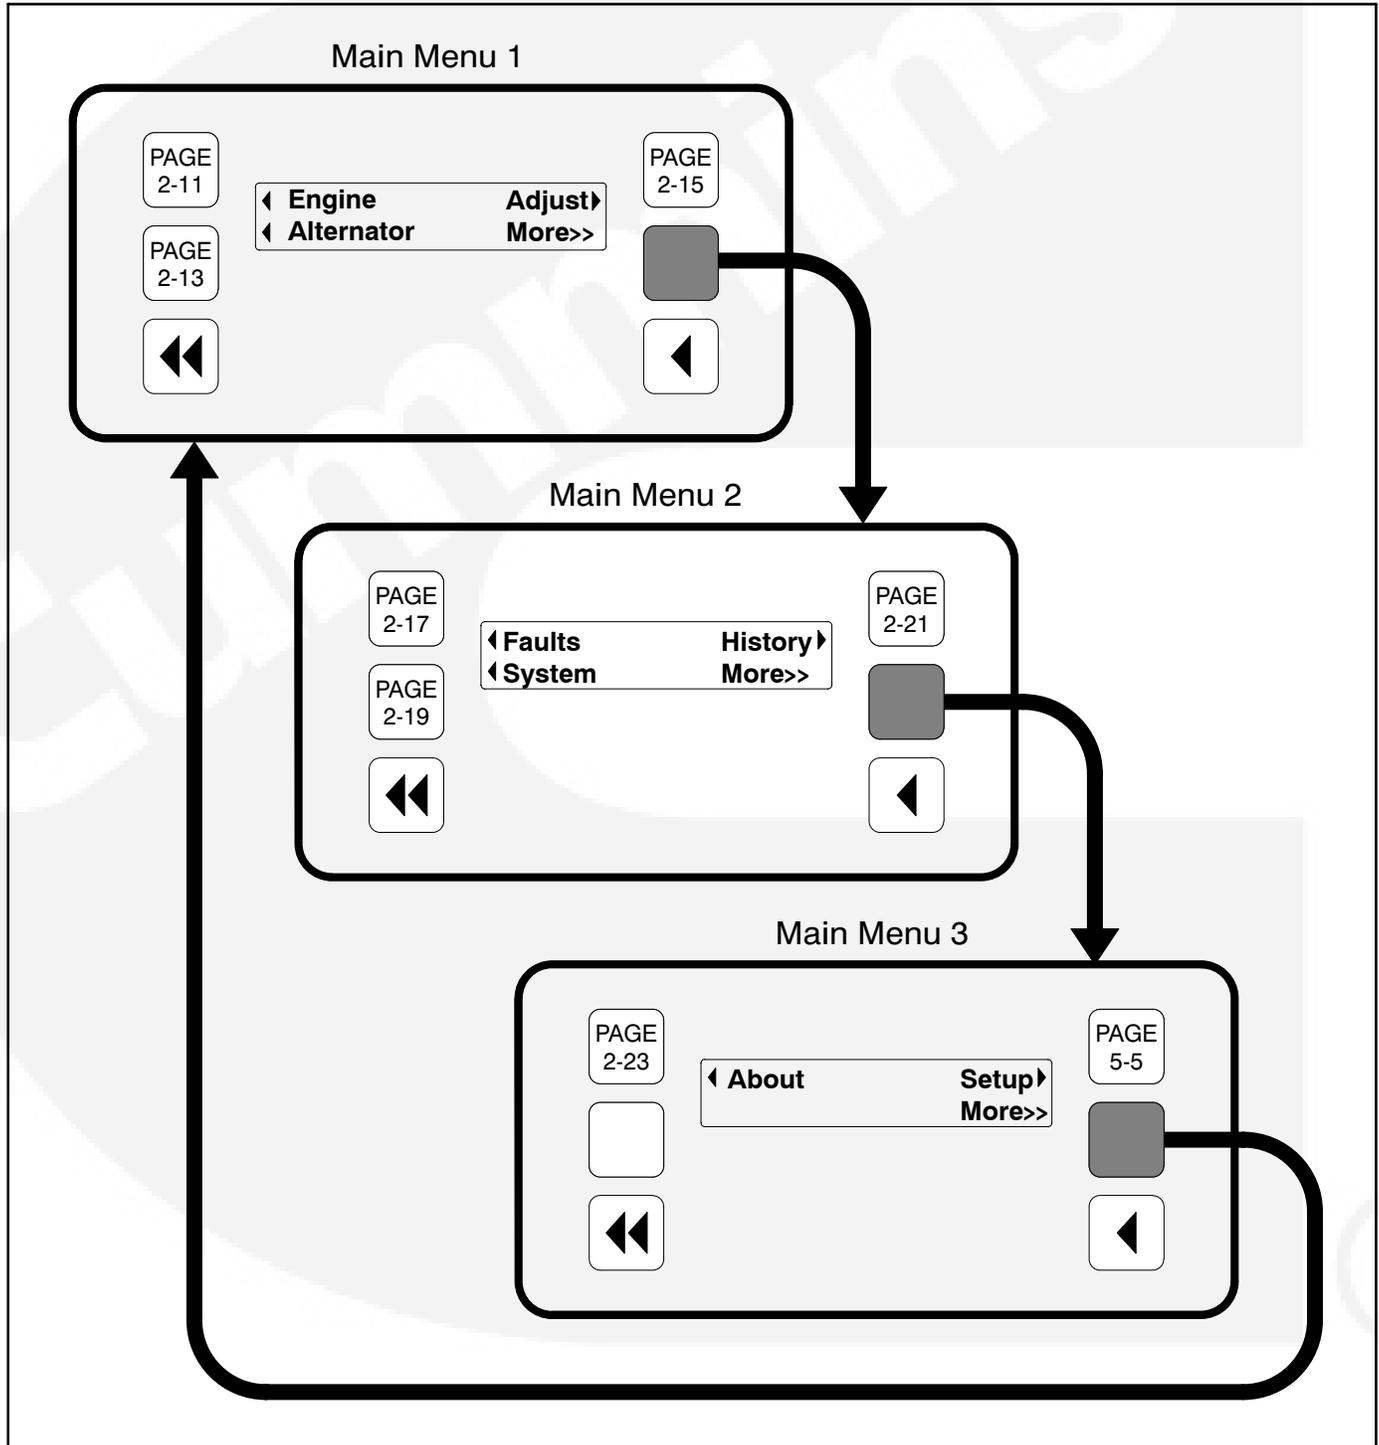
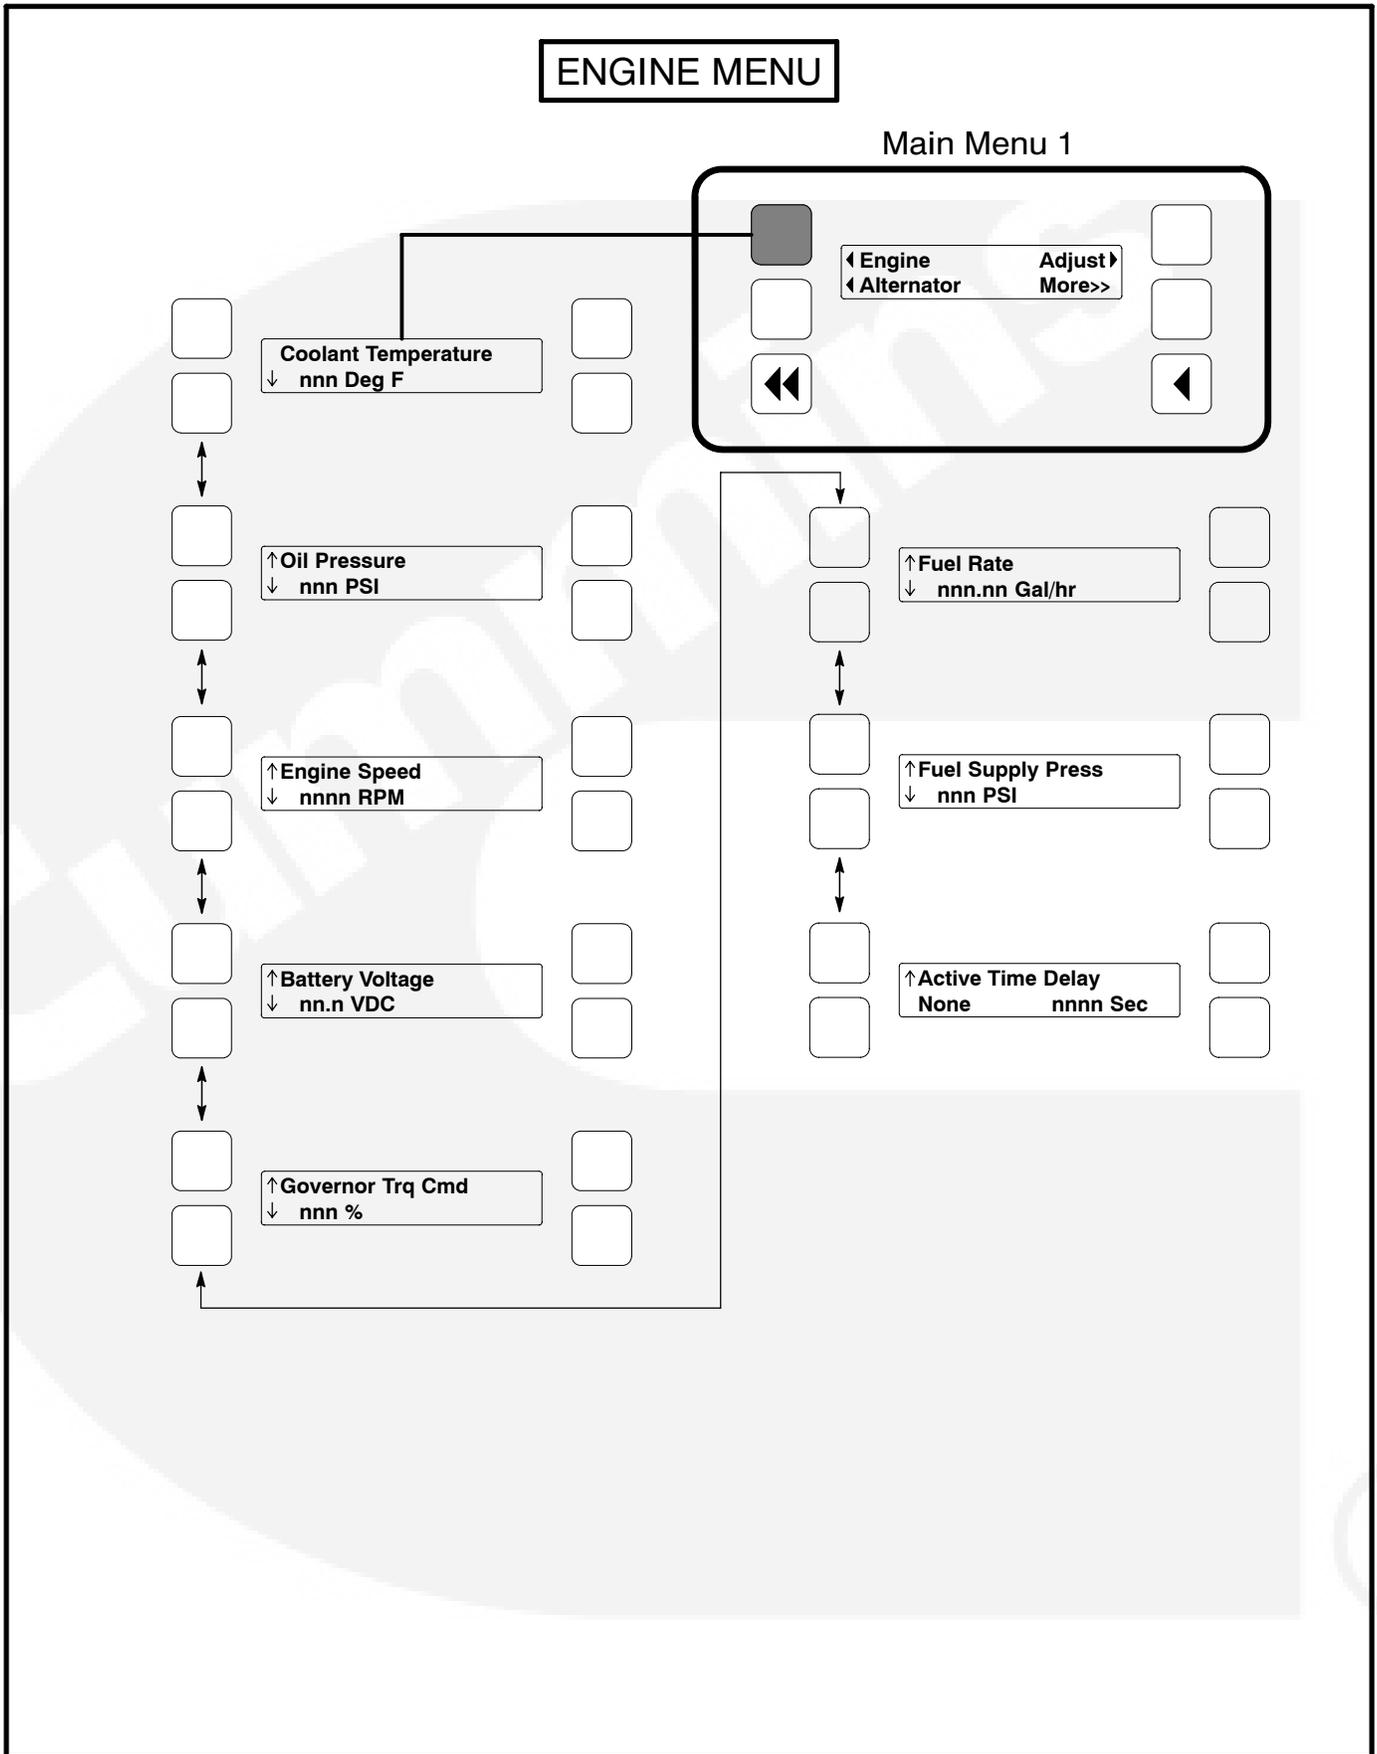

FIGURE 2-3. MAIN MENUS
FIGURE 2-5. ENGINE MENU
- In the digital display for main menus (Figure 2-3), the ◀ and ▶ symbols indicate that pressing the adjacent button causes the operating program to go to the selected submenu (e.g., Engine Menu in Figure 2-5).
the operating program to go to the next main menu, as shown in Figure 2-3.
Home Button: Pressing this button causes the operating system to show Main Menu 1 (Figure 2-3) in the digital display.
Figure 2-3 shows the three major main menus available to the user. Figure 2-3 also includes references to pages in this section where you can find additional information on submenus. When viewing a submenu, you can press the previous main menu button at any time to view its main menu.
Figure 2-5 shows a block representation of the Engine menu. If you press the button next to the word “Engine” in the display, the first Engine submenu is displayed.